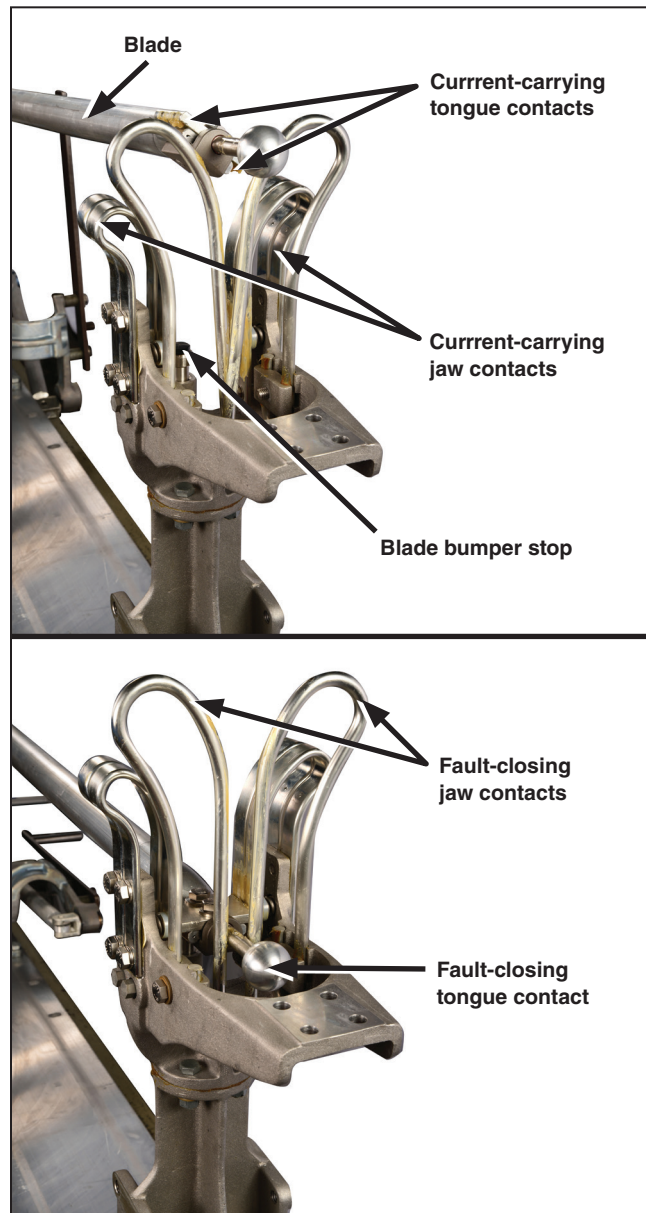
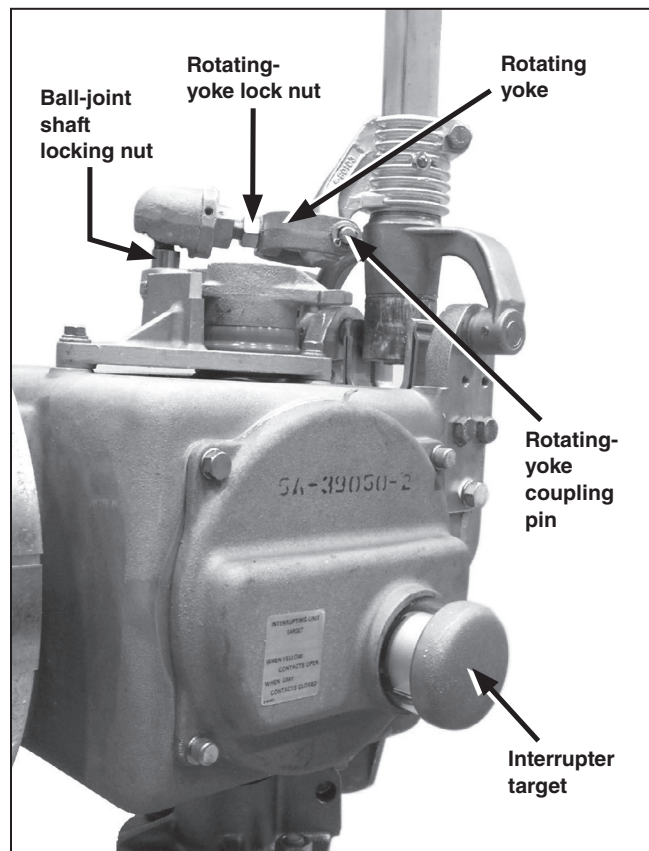

Figure 12. Tongue-contact and jaw-contact assemblies shown in partially Closed and fully Closed positions.
Figure 17. Blade mechanism overview
- (d) As the circuit-switcher moves toward the **Closed** position, the current-carrying tongue contacts enter the current-carrying jaw contacts with equal clearance on each side. See “Adjusting the Pole-Units” on page 18 and Figure 12 on page 18. For circuit-switchers rated 69 kV and up, this same engagement should be attained after the live parts have been removed and reassembled on the insulator stacks.
STEP 1. Make a final check of each circuit-switcher pole-unit for adjustment and alignment of the blade with the jaw-contact assembly. As each circuit-switcher blade is closed, the fault-closing tongue contact should engage each of the fault-closing jaw contacts with equal pressure and the current-carrying tongue contacts should enter the current-carrying jaw contacts with equal clearance on each side. The silver-surfaced area of the current-carrying tongue contacts should center laterally with the silver-surfaced current-carrying jaw contacts, and the blade should rotate with slight pressure against the blade bumper stop and come to rest either on the stop or slightly above it. See Figure 12.
STEP 4. Become familiar with the parts of the blade mechanism as seen in Figure 17. Check each circuit-switcher pole-unit for adequate penetration of the blade into the jaw contact during completion of the closing stroke. See Figure 12 on page 18. The blade should exert a slight pressure against the blade bumper stop before the start of the “wiping in” rotation. After the current-carrying tongue contacts are completely rotated into the jaw contacts, the blade pressure against the bumper stop will tend to be relaxed, and a $\frac{1}{8}$ -inch (3.2-mm) maximum gap is permissible between the blade and the blade bumper stop.